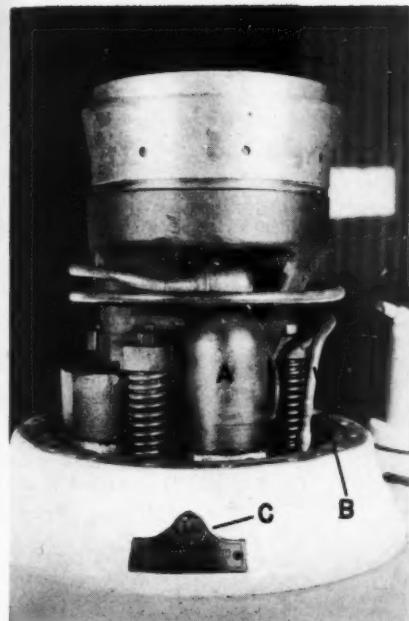

FIG. 3.—TWO VIEWS OF THE DR-2 UNIT WITH THE DOME REMOVED.
Two views of the DR compressor unit, in the process of dismantling, are shown in Fig. 3. On the left is the unit as it will appear when the dome has been removed, exposing the working parts. While the one shown is of the bolted type, the same mechanism will be found in the welded type. The unit floats on three springs, which absorb most of the vibration. So that as little vibration as possible will be carried through the suction line, which is the only other metal-to-metal contact between the unit and outer casing, the tubing is given two turns around the unit, forming a flexible connection. Where the suction line enters the base of the dome, it is brazed into a screw connector, with nut on the under side of the base. Thus, when the tubing is cut outside of the unit and the nut removed from the connector, the suction line may be pulled through the base.
The three motor leads are provided with metal clips, which are soldered to metal glass leads passing through the dome base. These should be unsoldered with a soldering iron. When the three nuts above the spring mountings are removed, the compressing unit may be lifted out of the dome base, and when turned upside down will appear as in the right-hand side of Fig. 3.
oil pump. The piston of this pump is fastened to the main piston, as shown at (D). The movement of the cylinder block also controls the suction and discharge ports of this pump. These ports are shown at (B). All the oil is drawn through a fine mesh screen, which may be seen at (D) in Fig. 3. The pressure created by the oil pump also operates the unloader valve, but before going